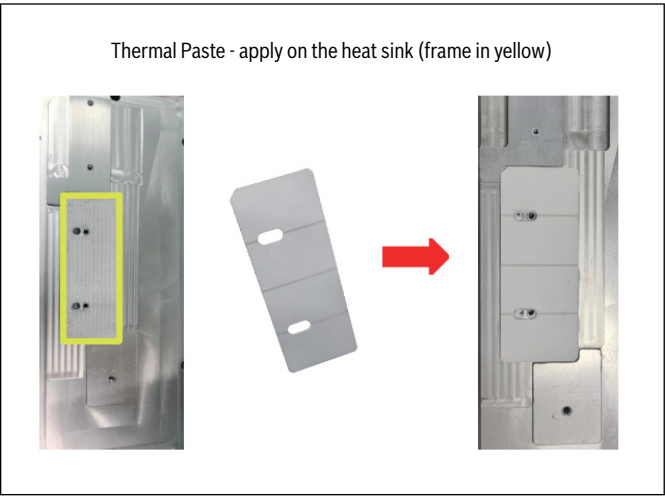

Figure 5
- Remove the 7 screws on the board (refer to Figure 5: items circled in yellow).
- Apply a thin and even layer of thermal paste on the heat sink designated location equably and thin (refer to Figure 5: item framed in yellow).
- Put the thermal gasket on the heat sink designated location. The side with breakable groove faces out (refer to Figure 5).